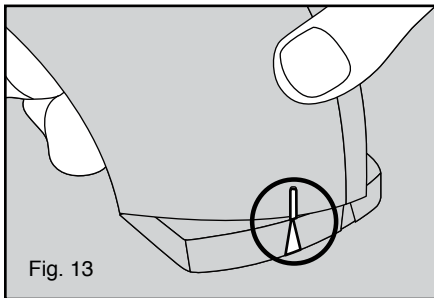

Fig. 13
14. Align the notches on the bottom of the soap discharge head with the tabs on the support shaft (see figure 13).